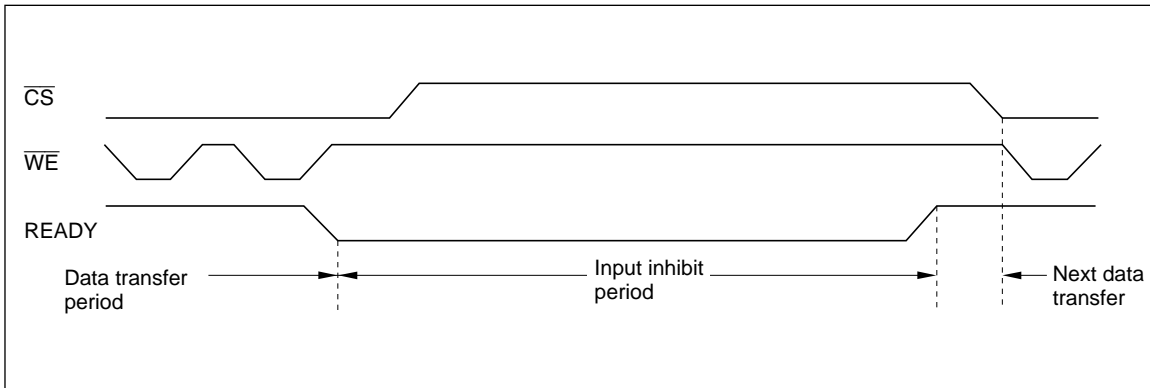

Figure 14 $READY$ Output Timing (When It Is Always Available)
- a. READY is always available (figure 14).